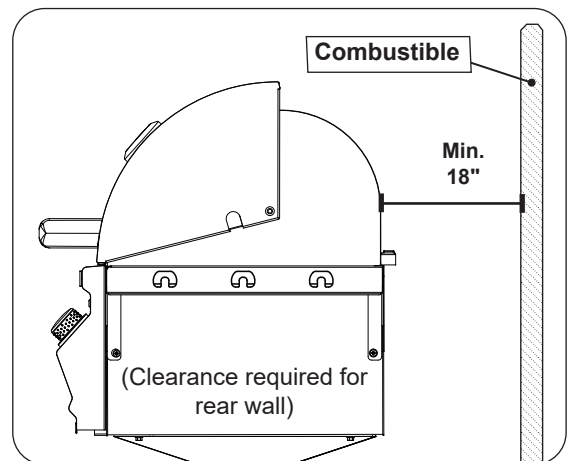

Fig. 13-3 Clearance 'B' Diagram
- The unit must have a minimum clearance of 18" from the combustible rear wall (see Fig. 13-3).